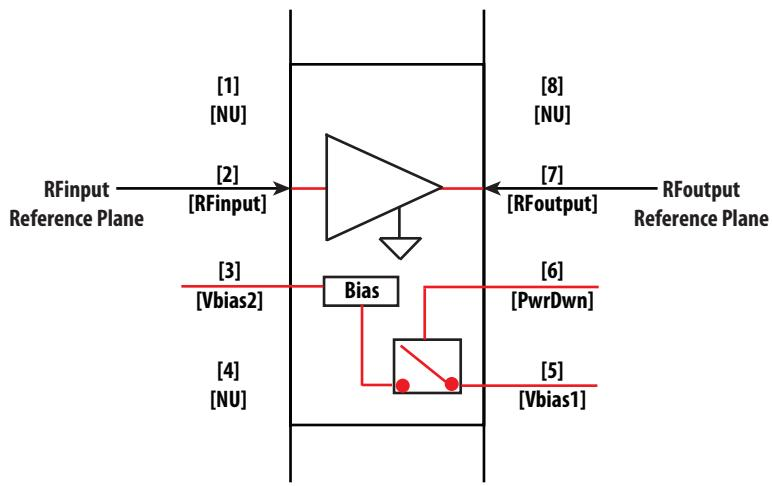

Figure 25. RFinput and RFoutput Reference Plane
2. Scattering and noise parameters are measured on coplanar waveguide made on 0.010 inch thick ROGER 4350. The input reference plane is at the end of the RFinput pin and the output reference plane is at the end of the RFoutput pin as shown in Figure 25.